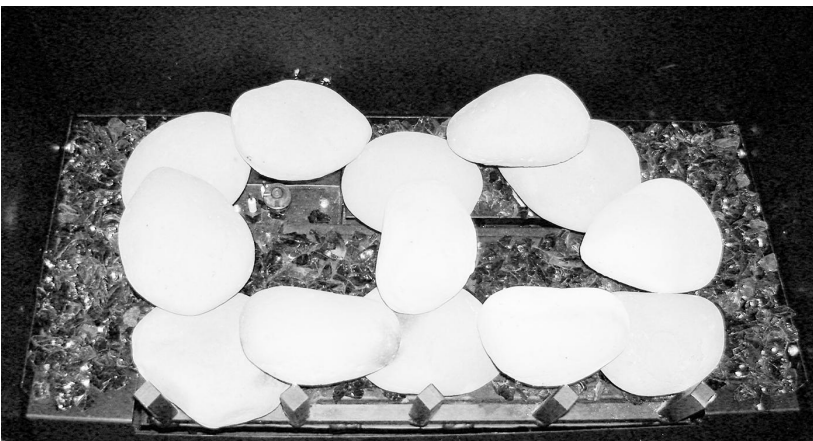

Figure 41 - Placing stones #11-13
- Place stones (#11-13) on top of the first layer of stones as shown on the picture below See Figure 41.